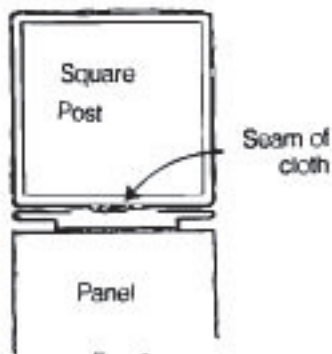

Fig. 3
1. Place post onto end. If post is fabric, seam should be to inside. See Fig. 3. Hold post flush with top of fabric portion of panel during assembly.